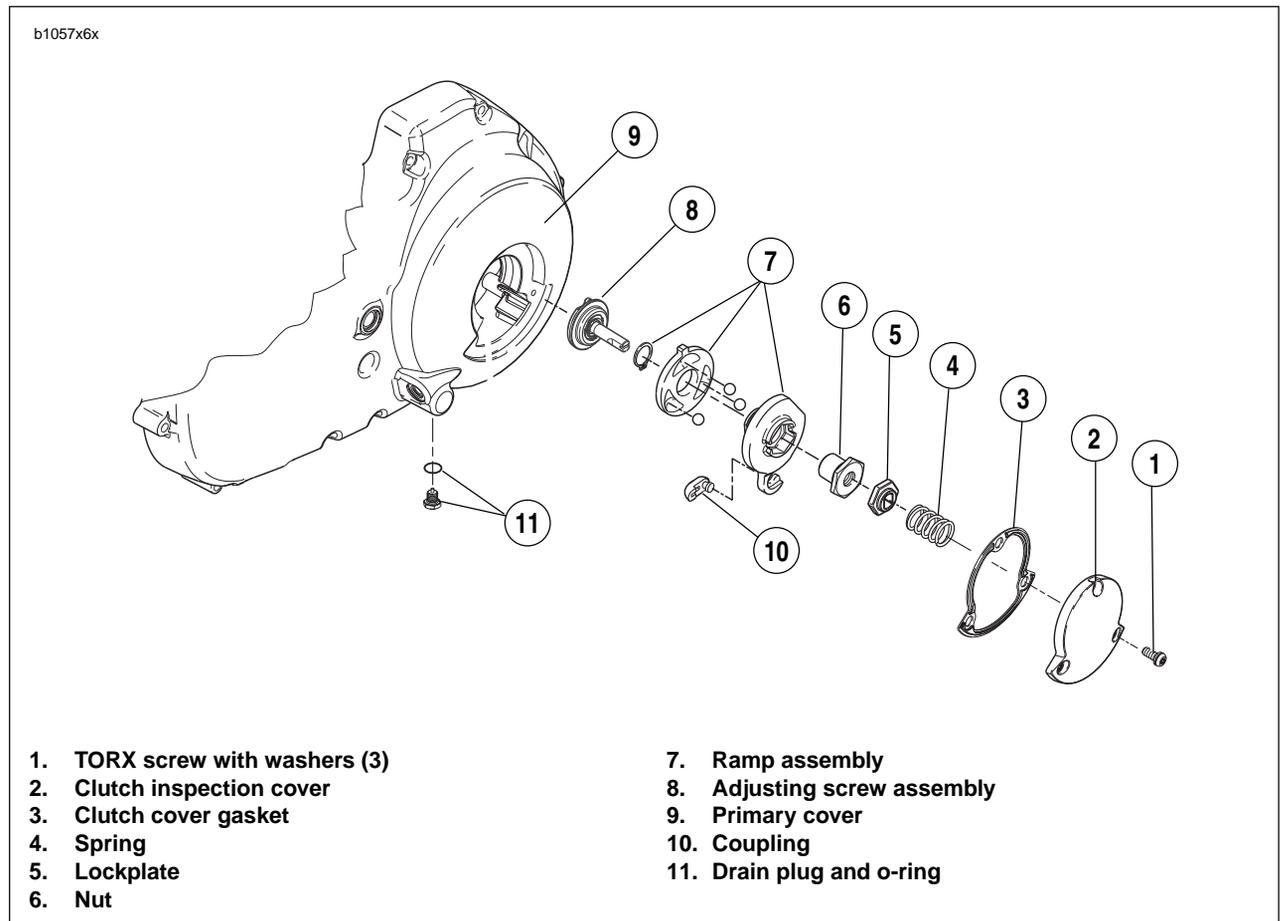

Figure 6-8. Clutch Release Mechanism
4. See Figure 6-8. Remove three TORX screws with washers and clutch inspection cover.
5. Slide spring (4) with attached screw lockplate (5) from flats of adjusting screw.
6. Turn adjusting screw clockwise to release ramp and coupling mechanism (7). As the adjusting screw is turned, ramp assembly moves forward. Unscrew nut (6) from end of adjusting screw.
7. Remove hook of ramp from cable end coupling (10). Remove cable end from slot in coupling.
2. See Figure 6-8. Inspect three balls of release mechanism and ball socket surfaces of inner and outer ramps for wear, pitting, surface breakdown and other damage. Replace parts as necessary.